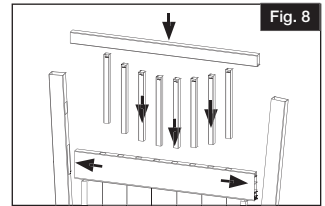

Fig. 8
- c.) For closed picket top gates, insert pickets into middle rail. Starting on left side and working right, place top rail onto all pickets. Insert top rail into upright on same side as bottom and middle rails (Fig 8).